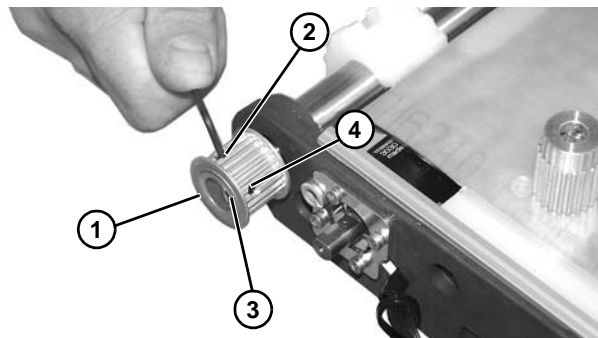

Figure 74
2. Install driven pulley (**Figure 74, item 1**) onto conveyor shaft until flush with spindle end. Line up longer set screw (**Figure 74, item 2**) on pulley over keyway (**Figure 74, item 3**) of shaft. Tighten set screw (**Figure 74, item 2**) and set screw (**Figure 74, item 4**) to 18 in-lb (2 Nm).